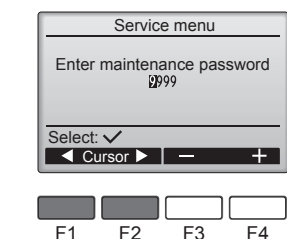

Fig. 6-2
- ① Select "Service" from the Main menu, and press the [F4] button.
- ② When the Service menu is selected, a window will appear asking for the password. (Fig. 6-2)